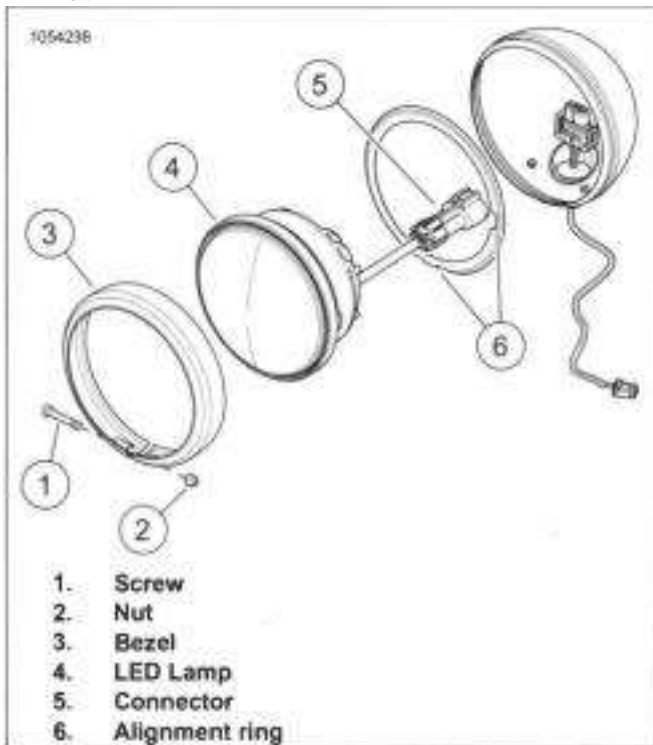

Figure 7-68. LED Auxiliary Lamp
1. See Figure 7-68. Remove screw (1) and nut (2).
2. Remove bezel (3).
3. Remove LED lamp (4).
4. Disconnect connector (5).
1. See Figure 7-68. Connect connector (5).
2. Install LED lamp (4) in alignment ring (6).
3. Install bezel (3).
4. Install screw (1) and nut (2). Tighten.